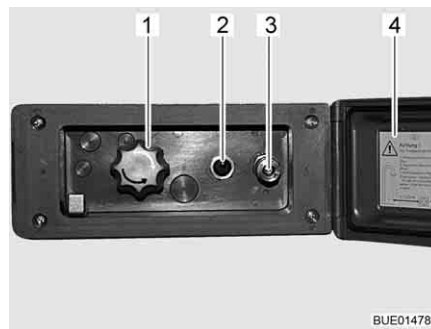

Fig. 156 External shower connection point
- Unlock and open the cover (Fig. 156,4).
- Attach hose of the external shower to the quick closure (Fig. 156,3).
- Switch on the water pump using the switch (Fig. 156,2).
- Adjust the water temperature with the rotary knob (Fig. 156,1) as desired.
- Switch off the water pump using the switch (Fig. 156,2).
- Close the cover (Fig. 156,4) and lock with key.
- Turn knob (Fig. 156,1) to the centre position.